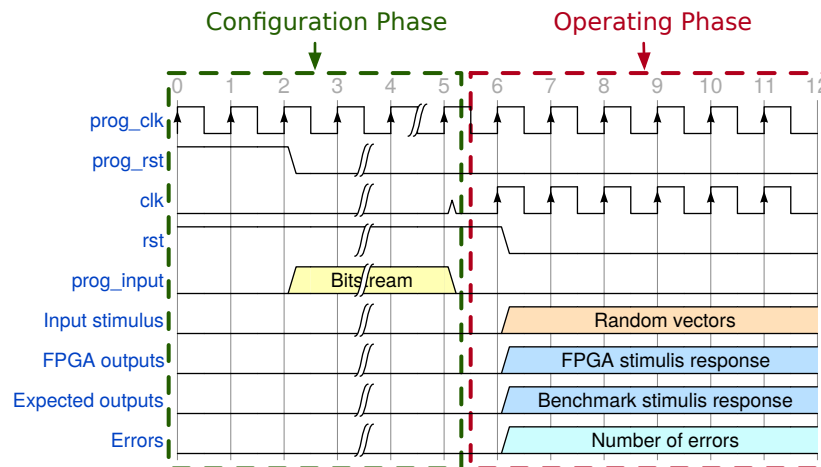

Fig. 10.4: Illustration on the waveforms in full testbench
- the **Configuration Phase**, where the synthesized design bitstream is loaded to the programmable fabric, as highlighted by the green rectangle of Fig. 10.4;
- the **Operating Phase**, where random input vectors are auto-generated to drive both Devices Under Test (DUTs), as highlighted by the red rectangle of Fig. 10.4. Using the full testbench, users can validate both the configuration circuits and programming fabric of an FPGA.